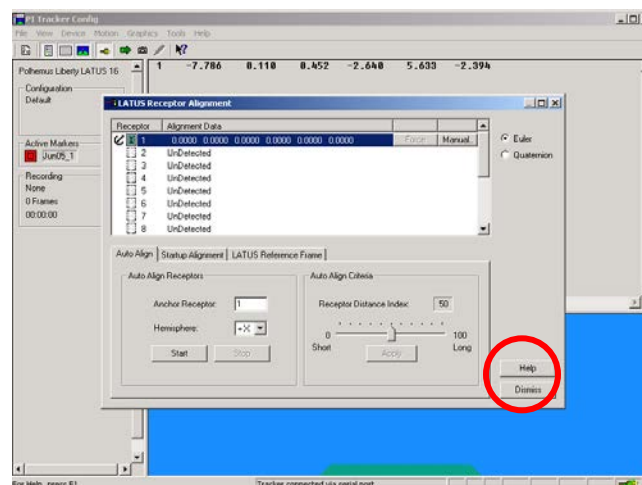

Figure 3-4: HELP button location on Receptor Alignment dialog box
- **LIBERTY LATUS Receptor Alignment** dialog should be open. Refer to the **Help** button on this dialog if needed; see Figure 3-4.